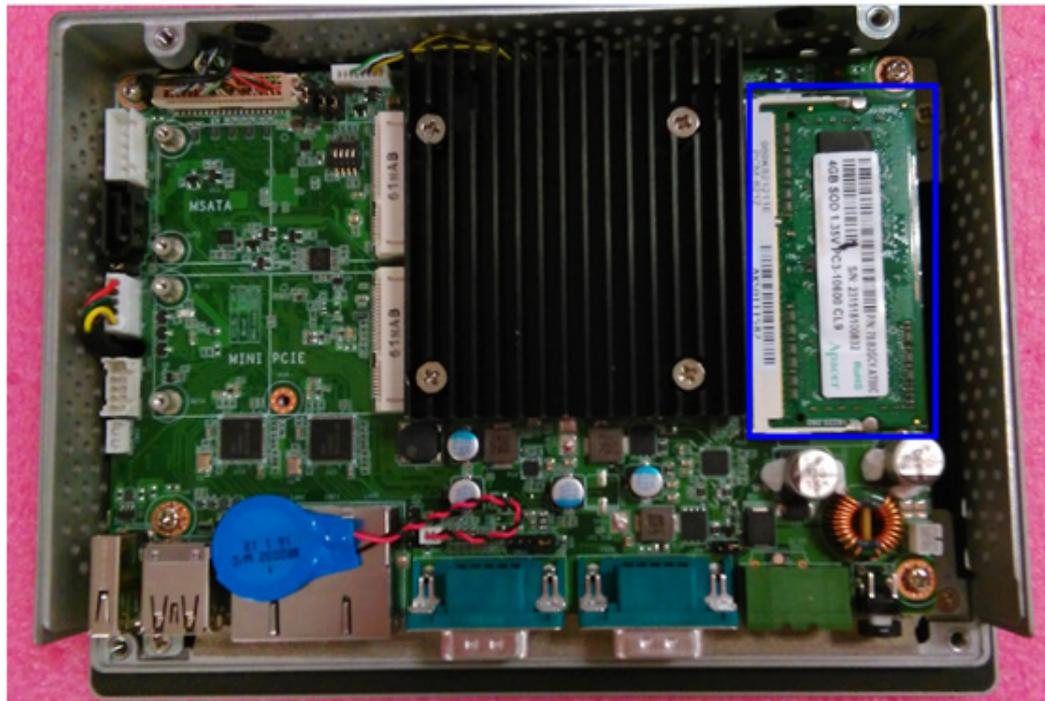

Figure 2.5 Installation of Memory Card
2. Insert the memory card into the slot as indicated in the blue square below, and attach the thermal pad for the memory from the accessory box. Installation of the memory card is now complete. (See Figure 2.5 and 2.6)